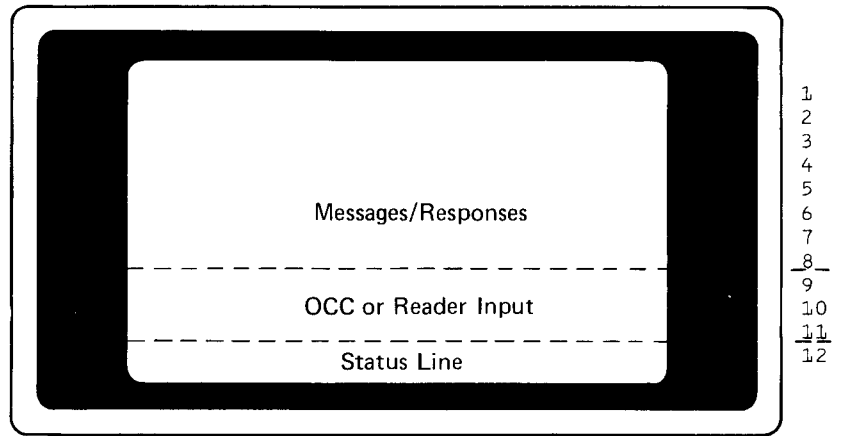

Figure 12. System Format
- System format (Figure 12)
In Figure 12, the first eight lines on the screen are used to display messages and your responses to them. For more information on responding to messages, see *Chapter 16. Terminating System/Program Operation* in *Part 2. System Operation*. The ninth through the eleventh lines are the area in which you enter OCC or system input data.